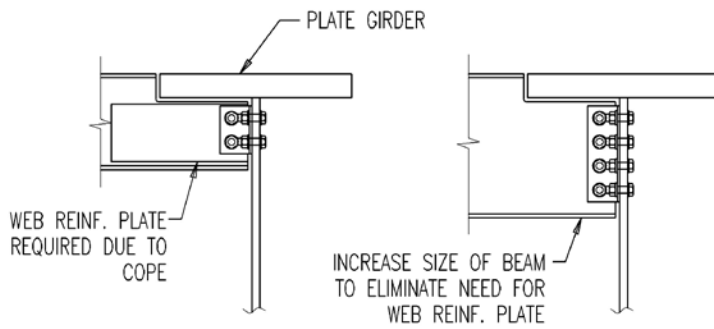

Figure 8: Increase beam depth to avoid reinforcing webs at connections.
- 31) **Increase beam depth to avoid web reinforcing.** Beams with large copes at connections should be increased in depth when required, to eliminate the need for web reinforcement or special connections. (Figure 8)